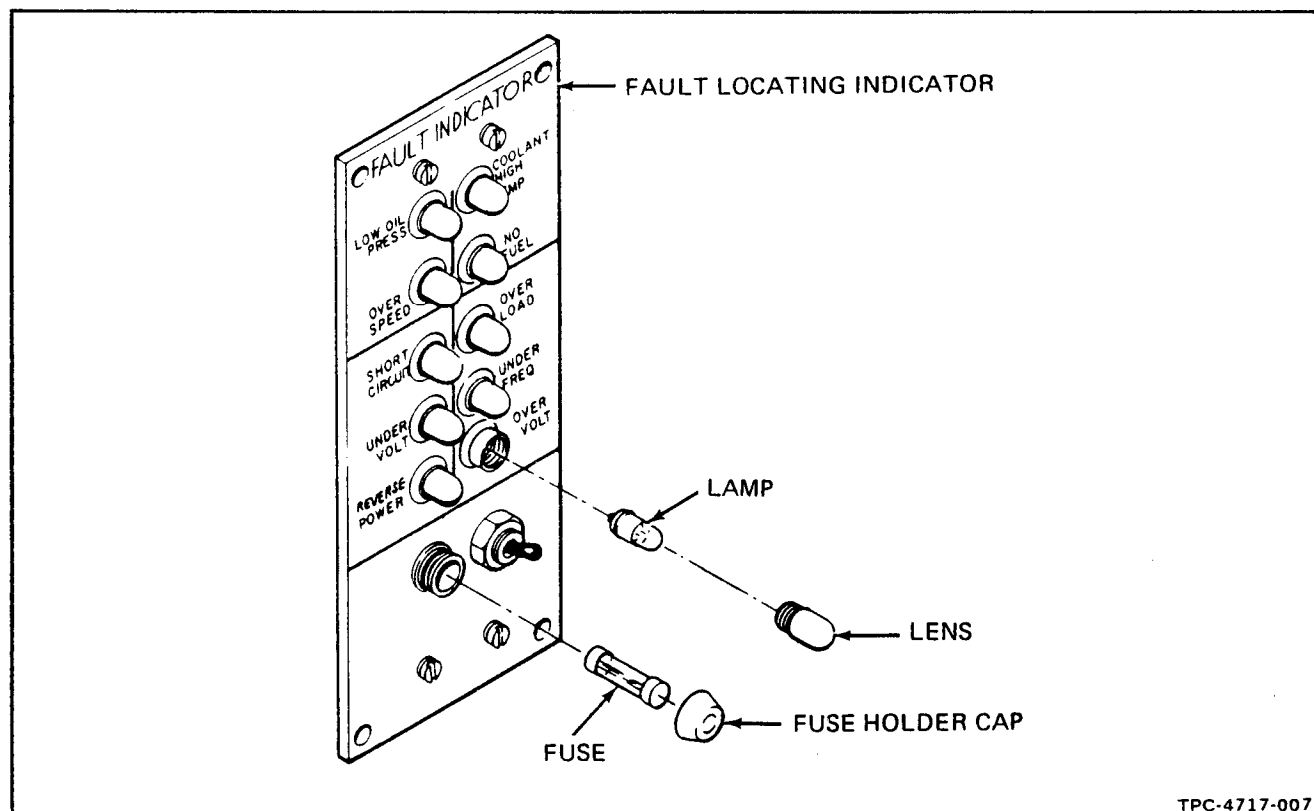

Figure 3-39. Fault Locating Indicator Lamp and Fuse Replacement
(1) Unscrew lens (figure 3-39) and remove lamp.
(2) Visually inspect lamp for corrosion, cracked or broken glass, and burned out filament.
(3) Replace lamp if defective.
(4) Install lamps and lens.
(1) Unscrew cap (figure 3-39) and remove fuse.
(2) Visually inspect fuse for corrosion, cracked or broken glass, and melted conductor.
(3) Replace fuse if defective.
(4) Install fuse and cap.